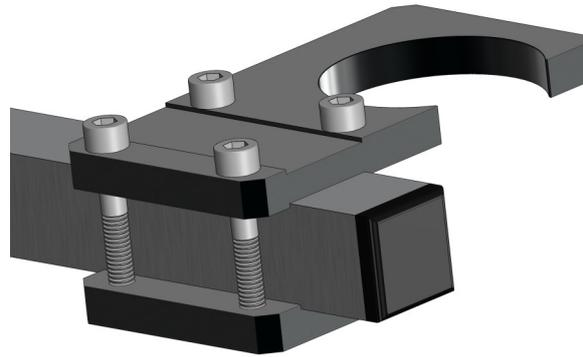

Figure 47 - Probe holder and counter part on supporting arm
- Screw on probe holder (fig. 47, pos. **1**) and counterpart (pos. **2**) to the supporting arm.